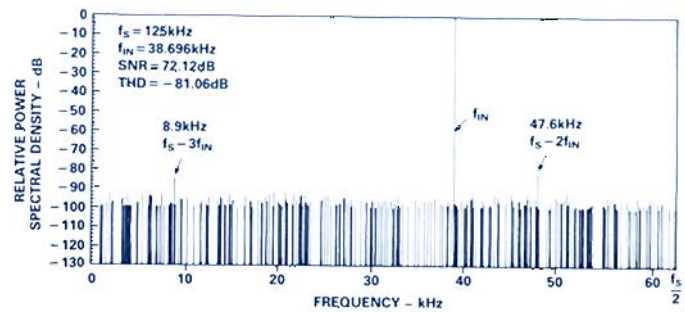

Figure 3. AD1332 spectral response, with filter; note low level of aliased harmonics.
*Dynamic specifications:* with the anti-aliasing filter set to  $f_c$  of 50 kHz and an input sine wave of 38.7 kHz, signal-to-noise ratio (SNR) is 70 dB, corresponding to 11.3 effective bits. Total harmonic distortion (THD)—same input conditions—is at least 72 dB below the fundamental (Figure 3). Intermodulation distortion (IMD) with inputs of 32.8 kHz and 34.3 kHz is also at least 72 dB down. Results are similar without a filter and 60-kHz input.